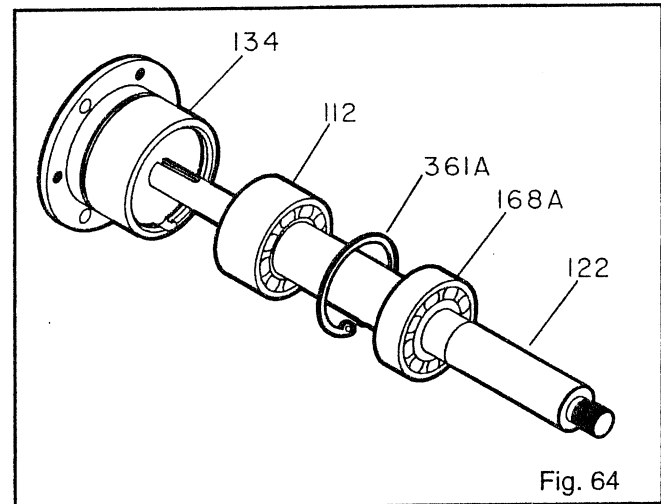

Fig. 64
6. Remove bearing housing (134) from shaft (122) with bearings (112A, 168A) (Fig. 64).